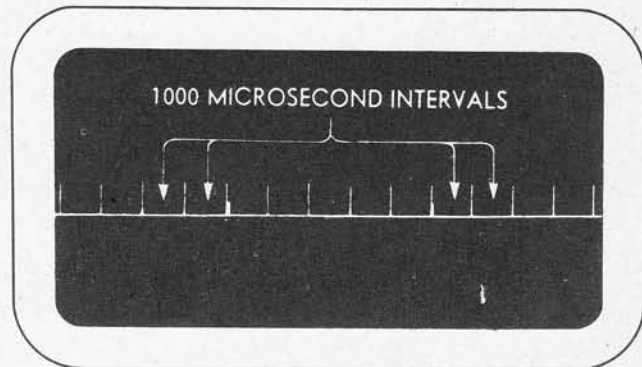

Figure 4-28
g. AMPLITUDE OF TRACES.—Figures 4-28 to 4-31 are for receiver-indicator emergency operation, amplitude of traces.
(1) For adjusting amplitude of traces with "FUNCTION" switch set at positions "1" or "4," proceed as follows: